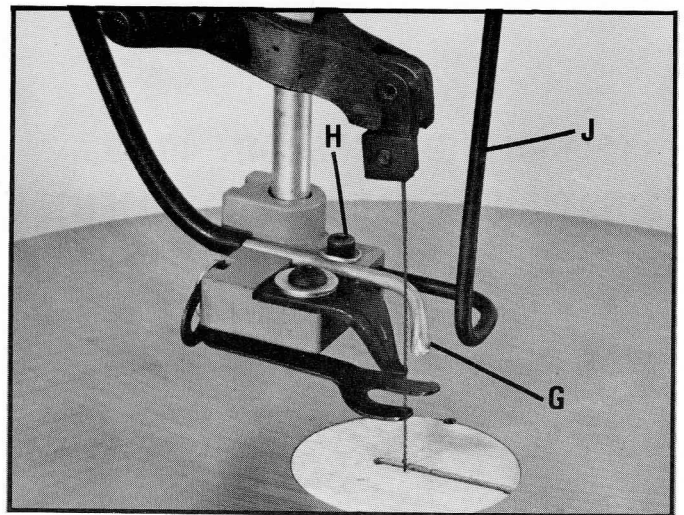

Fig. 24
The dust blower (G) Fig. 24, may be moved to direct air to the most effective point on the cutting line by loosening screw (H).
The blade guard (J) Fig. 24, should always be adjusted so it is in line with the saw blade by loosening screw (H).